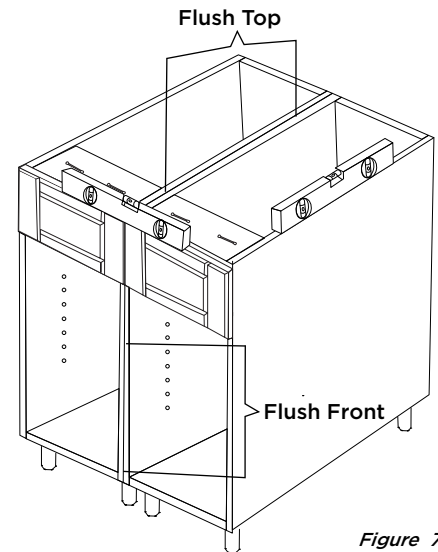

Figure 7
1. Place the next cabinet in the installation adjacent to the previously leveled cabinet (Figure 7).